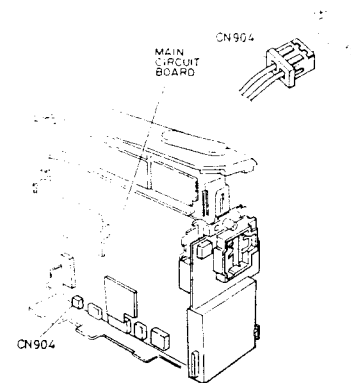

Fig. 2-14
If an electric circuit system defective, disconnect connector CN904 from the main circuit board and apply 3V DC to the connector (female). Unloading can now be done. (See Fig. 2-14)
- 7) Remove the DC power supply DC37 from CN904. (See Fig. 2-14)